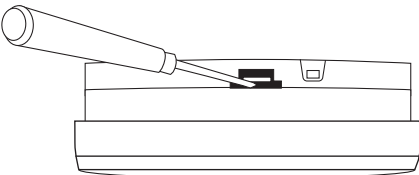

Figure 4. Press the catch upwards and simultaneously pull the smoke alarm sideways to release it from the mounting plate
- Use a screwdriver to release the smoke alarm from the mounting plate with connection terminal. *See figure 4*